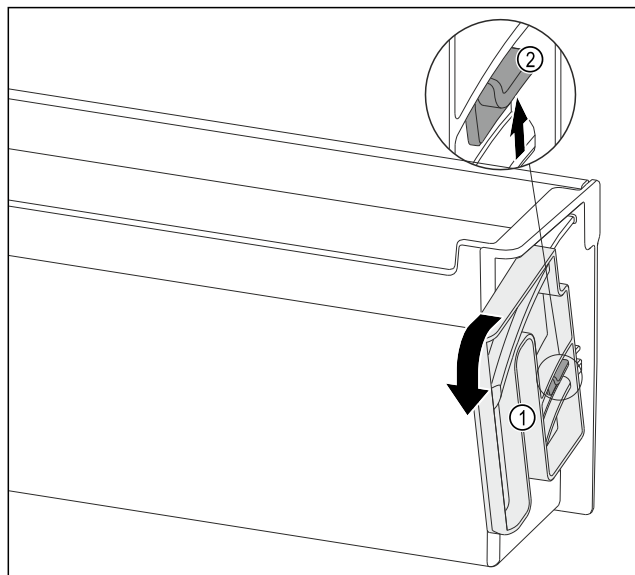

Fig. 124
- ▶ Turn the turning unit Fig. 124 (1) in the specified direction to the end stop.
- ▶ Press the tab Fig. 124 (2) up and remove the turning unit Fig. 124 (1).